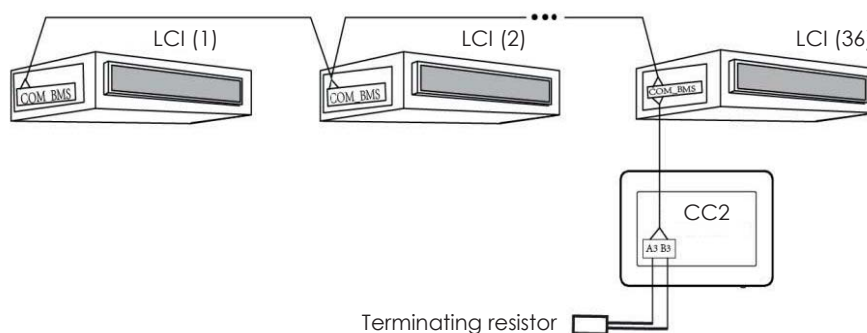

Fig. 3.7 Centralized controller connected to the LCI systems
2. Connect (using a cable with the features specified in paragraph 3.1) terminals A3 and B3 on the controller to the COM_BMS port on the indoors unit (the LCI indoor units have two COM_BMS ports one for the communication of the indoor unit and one that can be used for the connection of the centralised controller); remember that it is necessary to connect the terminating resistor as shown in the diagram shown in Fig. 3.7;